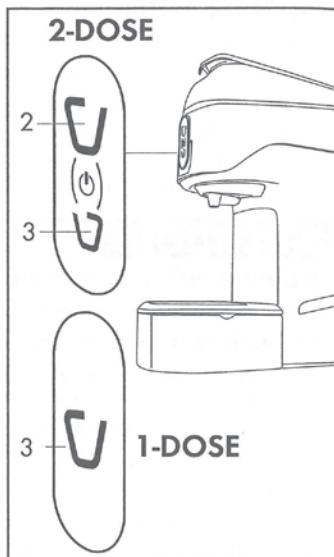

Fig. 4
- Switch on the machine by pressing one of the symbols (2) or (3) or the 2 symbols (2) and (3) simultaneously for the 2-Dose model. For the 1-Dose model, press the symbol (3) (**Fig.4**). The symbols (2-3) will flash intermittently until the temperature is reached; when the symbols (2-3) are lit with a fixed light the machine is ready for use.
To use the machine again, press a dispensing symbol (2-3) and wait for it to heat up: the dispensing symbols (2-3) will blink intermittently until the temperature is reached; when the symbols (2-3) are lit with a fixed light the machine is ready for use. (**Fig.4**).
The machine can be switched off by simultaneously pressing and holding down for 5 seconds the symbols (2-3) for the 2-Dose model or the symbol (3) for the 1-Dose model. (**Fig.4**)
- Check that there are no capsules inside the machine and that there is water in the tank (8); switch on the machine by pressing one of the symbols (2-3) or simultaneously the 2 symbols (2-3) for the 2-Dose model. For the 1-Dose model, press the symbol (3) (**Fig.4**)